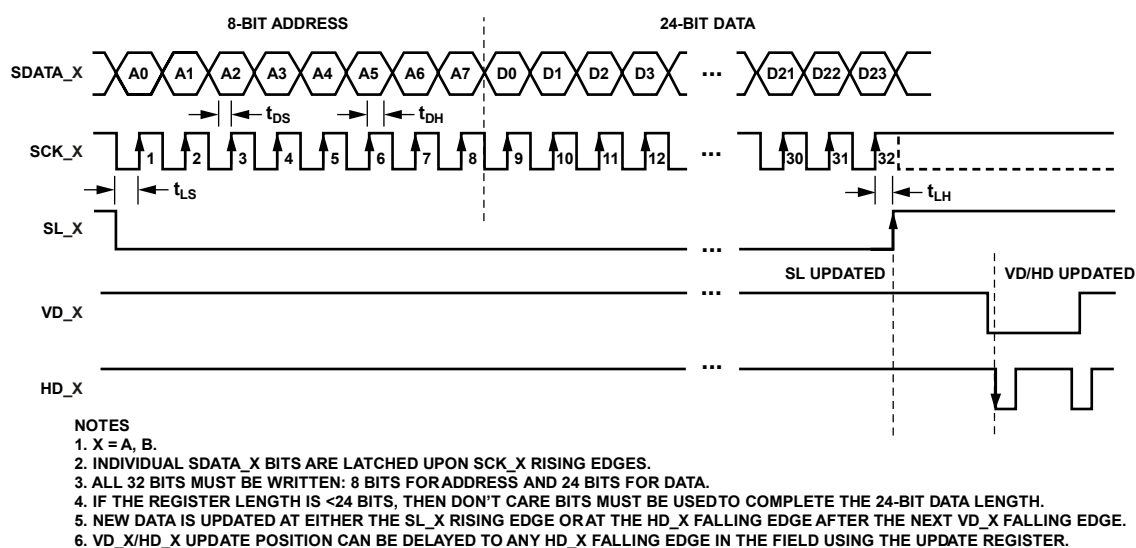

Figure 14. Serial Write Operation
All of the AD9942 internal registers are accessed through a 6-wire serial interface. Each register consists of an 8-bit address and a 24-bit data-word. Both the 8-bit address and the 24-bit data-word are written starting with the LSB. To write to each register, a 32-bit operation is required, as shown in Figure 14. Although many registers are less than 24 bits wide, all 24 bits must be written for each register. If the register is only 16 bits wide, then the upper 8 bits can be filled with 0s during the serial write operation. If fewer than 24 bits are written, the register is not updated with new data.
- All registers are VD\_X/HD\_X updated as shown in Figure 14, except for the registers indicated in Table 8, which are SL\_X updated.